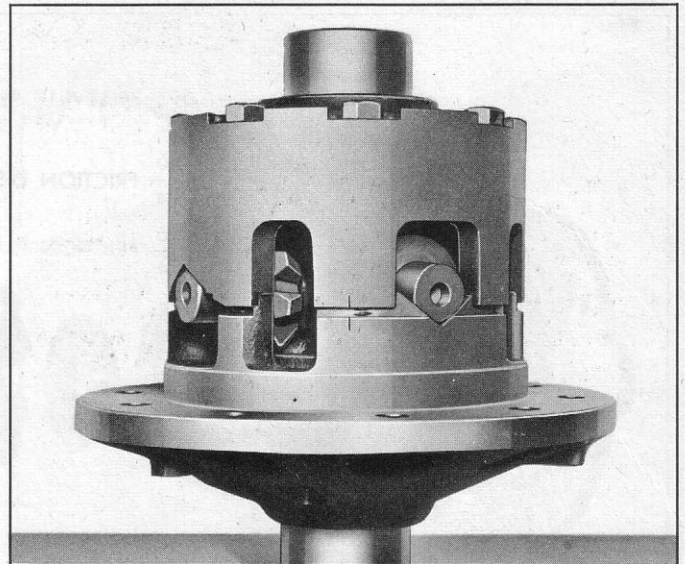

Fig. 36—Differential Case Alignment Marks
1. Check that the differential case halves are marked with a number or letter to aid aligning the case when assembling. If not, scribe an alignment mark as shown in Fig. 36.